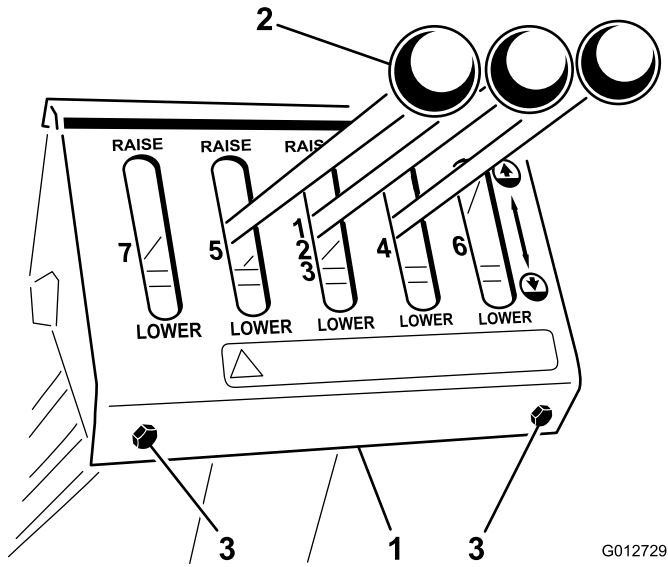

Figure 15
- Remove the 4 bolts securing the control panel cover to the control tower and remove the cover (Figure 15).
- Reinstall the control panel cover to the control tower with 4 bolts (Figure 15).